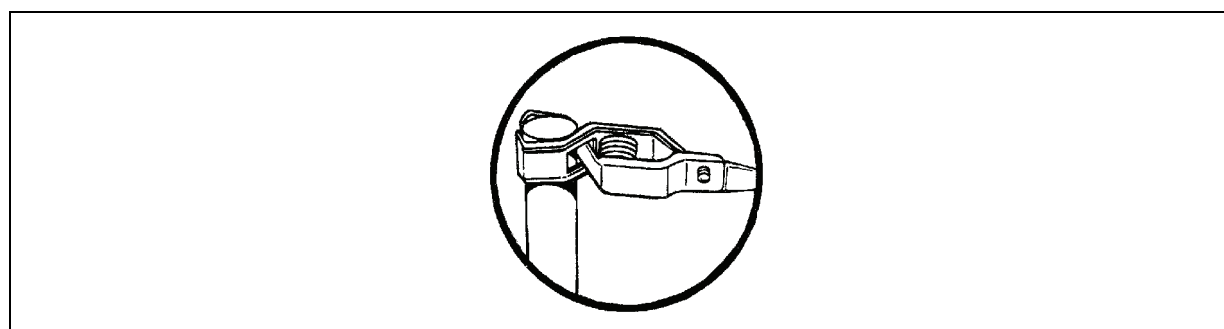

Figure D-4. Clamp Connected to Grounding Rod
- Attach an electrical clip to the other end of the 20-foot cable. Connect the clip to the grounding rod (Figure D-4).